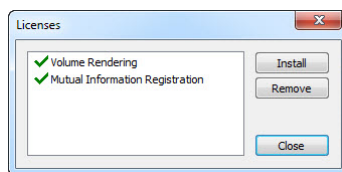

Figure 1 – Licenses dialog
2. In **Licenses** dialog (see Figure 1), which will be displayed with already installed licenses, you can install new license (click on the **Install** button) or you can remove selected license from list (select the license and click on the **Remove** button).